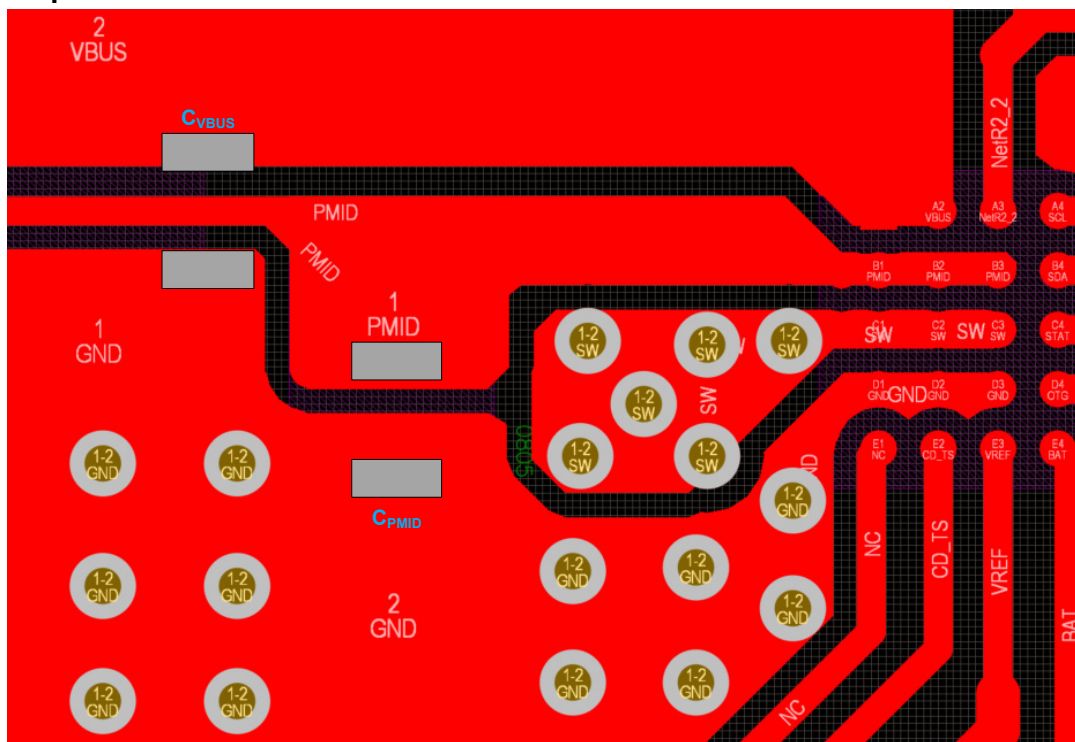

Figure 17. Layout Example
5. The 4.7μF PMID capacitor should be placed as close as possible to the PMID pin and PGND pin to minimize the area of the high-frequency current circuit. Add 1μF input capacitor should be placed as close as possible to the VBUS pin and PGND pin to minimize the area of the high-frequency current circuit (see Figure 17).